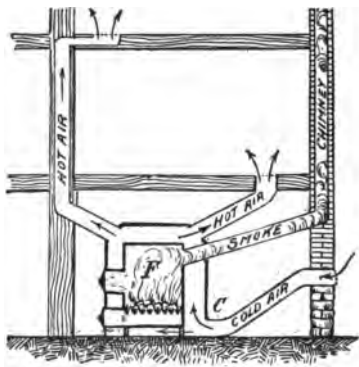

FIG. 162. — The hot-air furnace.
**163. Hot-air system of heating and ventilating.** The hot-air furnace in the basement (Fig. 162) is simply a big stove, surrounded by a shell or jacket of galvanized sheet iron. The air between the